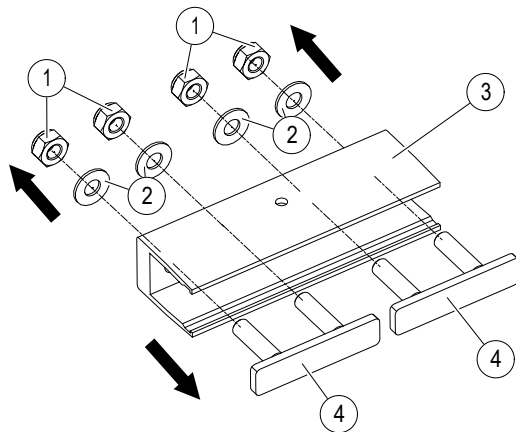
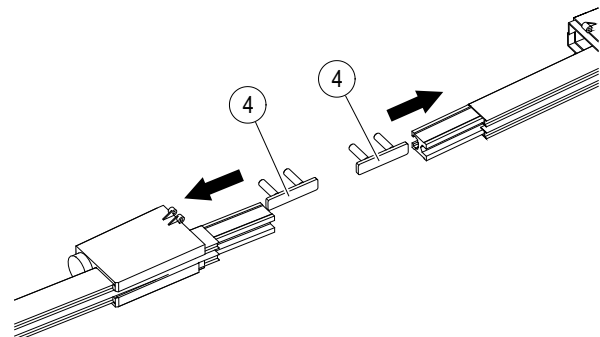
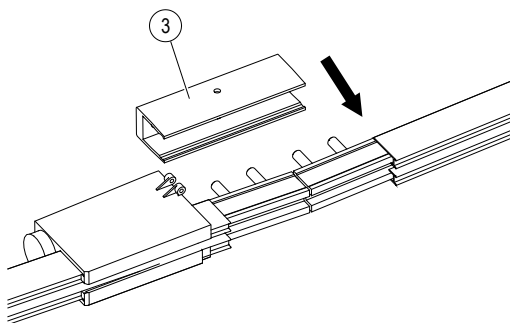

Fig. 20: Disassembly of connector 0813
Fig. 21: Slide the clamping plates into the conductor bar
Fig. 22: Slide the connector (3) over the clamping plate
For clipping the last conductor rail curve 0813, the connector or infeed 0813 must be disassembled into its single parts (clamping plate (4), nuts (1), and washer (2) see Fig. 20). Slide the clamping plate (4) into the conductor bar (see Fig. 21). Slide the connector (3) and washers (2) over the connecting bolts of the clamping plate (4) and tighten nuts (1) (31 Nm) (see Fig. 22).